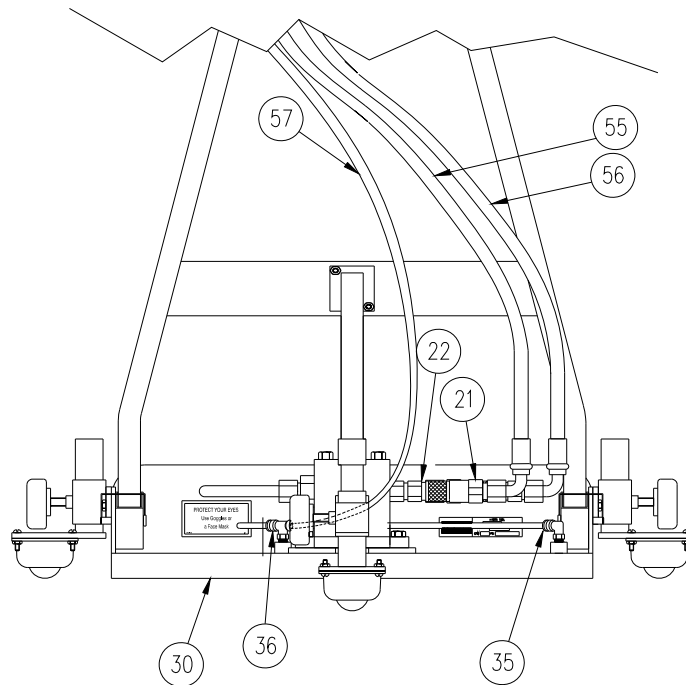

Figure 3-5
5. **Refer to figure 3-5.** Connect hydraulic and water lines. Connect the water line (item #57) to the “tee” (item #36) on the guard body (item #30). Connect male JIC coupling (item #21) on the pressure side hose (item #55), to the female JIC coupling (item #22) on the guard body. Connect Female JIC coupling (item #22) on the tank side hose (item #56), to the male JIC coupling (item #21) on the guard body.